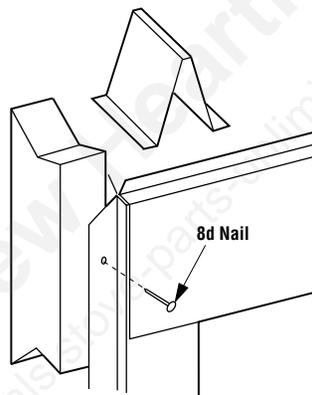

Figure 9
****Note:** The nailing tabs and the area directly behind the nailing tabs are exempt from the clearances described in the above table. See **Figure 9 on page 8**.
Fireplace should be secured to side framing members using the full length 1/2 inch nailing flanges that are integral to the appliance at each side. Use 8d nails (**Figure 9**).